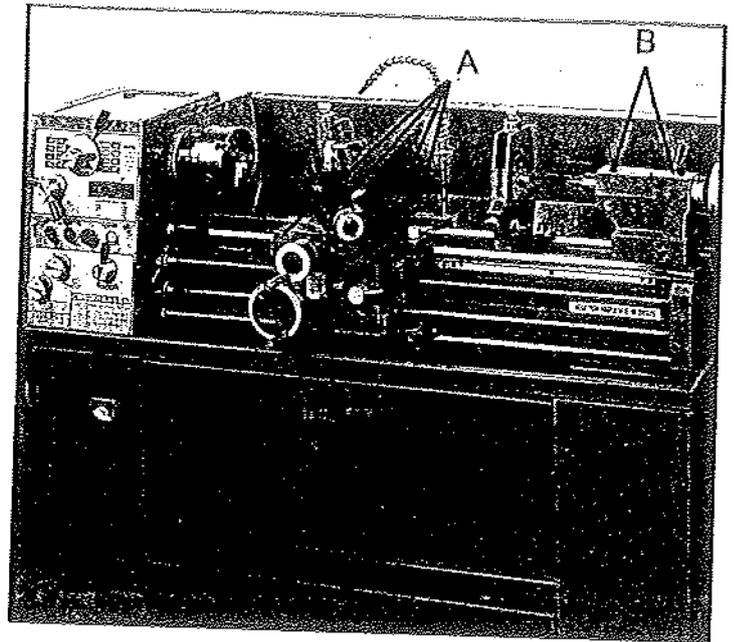

Fig. 6
8. Carriage - lubricate four oil ports (A, Fig. 6) with 20W machine oil once daily.
9. Tailstock - lubricate two oil ports (B, Fig. 6) with 20W machine oil once daily.